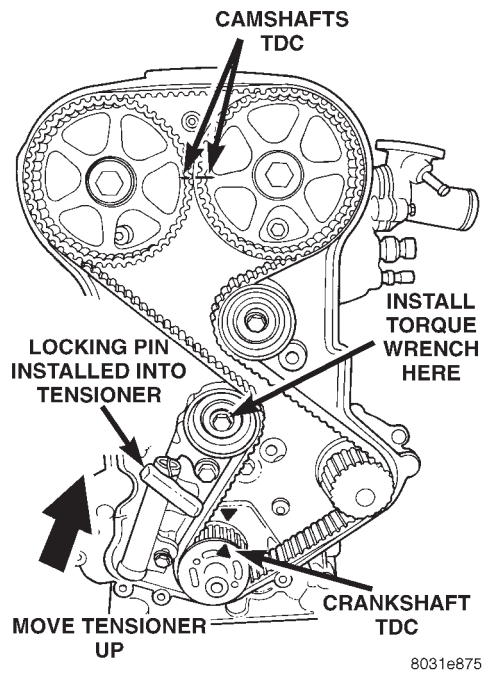

Fig. 47 Adjusting Timing Belt Tension
(7) Install timing belt in this direction. Starting at the crankshaft, go around the water pump sprocket, idler pulley, camshaft sprockets and then around the tensioner pulley (Fig. 47).
(8) Move crankshaft sprocket to TDC to take up belt slack. Install tensioner to block but do not tighten fasteners.
(9) Using a torque wrench on the tensioner pulley apply 28 N·m (250 in. lbs.) of torque to tensioner (Fig. 47).
(10) With torque being applied to the tensioner pulley move the tensioner up against the tensioner pulley bracket and tighten fasteners to 31 N·m (275 in. lbs.).
(11) Pull tensioner plunger pin. Pretension is correct when pin can be removed and installed freely.
- (12) Rotate crankshaft 2 revolutions and check the alignment of the timing marks (Fig. 47).
- (13) Install front half of timing cover.
- (14) Install engine mount bracket.
- (15) Install power steering pump assembly.
- (16) Install right engine mount. Refer to procedure outlined in this section.
- (17) Remove jack from under engine.